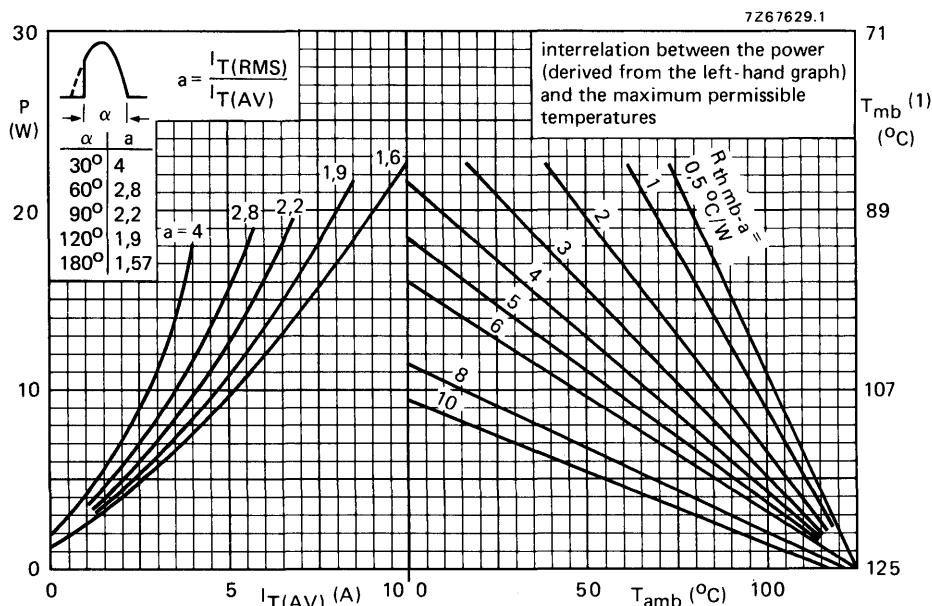

Fig. 3 (1) T_{mb} -scale is for comparison purposes only and is correct only for $R_{th\ mb-a} \leq 6\ ^{\circ}\text{C}/\text{W}$.
* To ensure thermal stability: $R_{th j-a} < 4 \text{ °C/W}$ (d.c. blocking) or $< 8 \text{ °C/W}$ (a.c.). For smaller heat-sinks T_j max should be derated. For a.c. see Fig. 3.